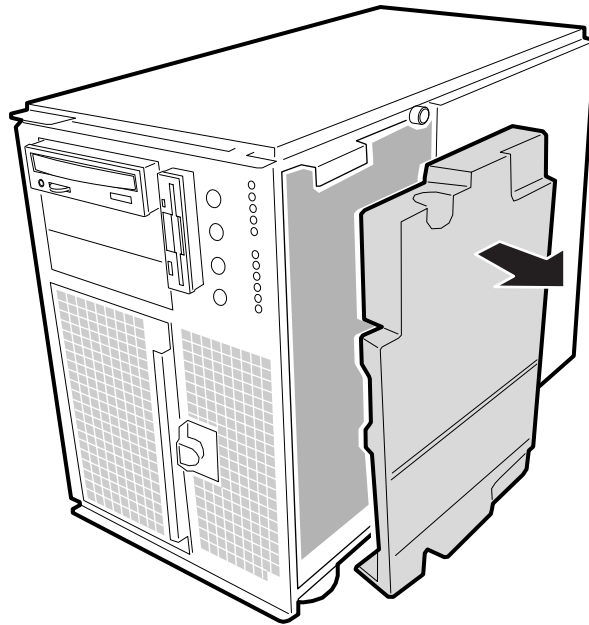

Figure 24: Removing the System Fan Assembly
3. Remove the foam cover from the front subchassis by pulling it straight out (see Figure 24). Be careful not to break the foam.